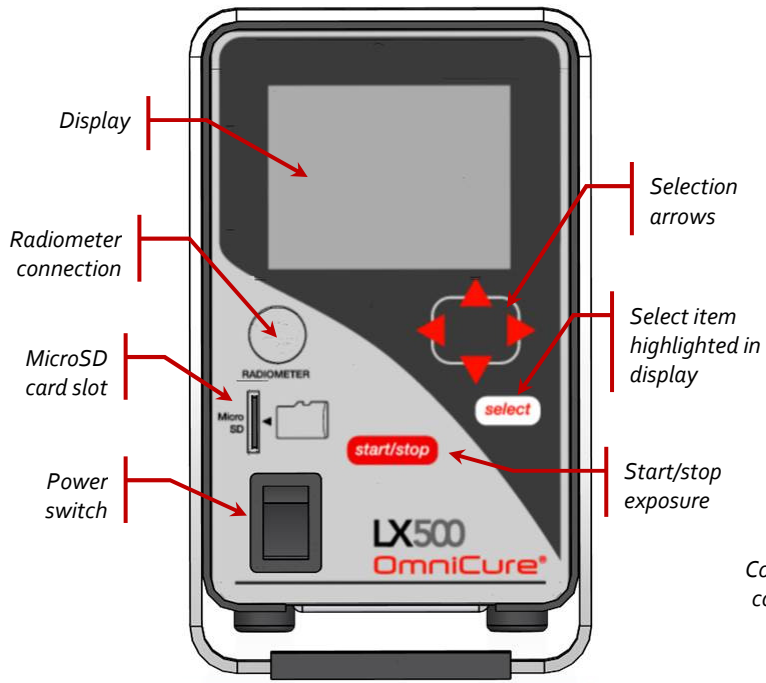

Figure 1 UV LED Head Controller (front)
3. Turn the Controller power switch to "ON" (refer to Figure 1).